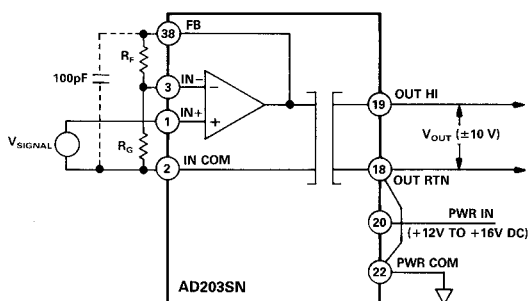

Figure 17. Input Configuration for a Gain Greater than 1
**Input Configuration for a Gain Greater Than 1 (G>1).** When small input signal levels must be amplified and isolated, Figure 17 shows how to get a gain greater than 1 while continuing to preserve a very high input impedance.
- $V_O$  = Output Voltage (V)
- $V_{SIG}$  = Input Signal Voltage (V)
**Note on the 100 pF Capacitor.** Whenever a gain of 50 V/V or greater is required, a 100 pF capacitor from the FB (input op amp feedback) terminal to the IN COM (input common) terminal, as shown with the dotted lines in Figure 17, is highly recommended. The capacitor acts to filter out switching noise and will minimize the isolator's nonlinearity parameter.